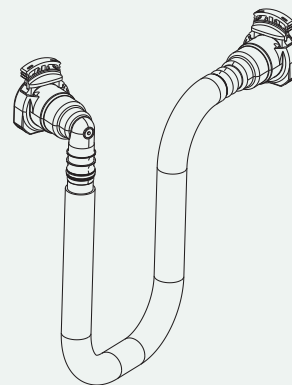

FIGURE 4
- 2 Check the supplied Nylon fuel hose assembly with elbow and straight, as per Figure 4.